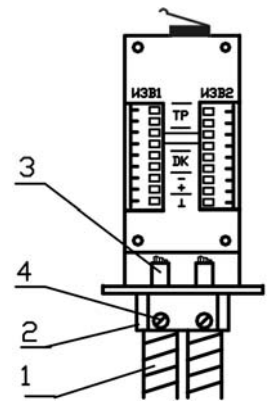

Fig.10.6
10.3.9 Lead cables 1 (Fig. 10.6) in metallic hoses through the holes of the cable lead-ins 2 and lead the prepared ends 3 of cables to terminals “ИЗБ1” (DET1) or “ИЗБ2” (DET2) for further connection.